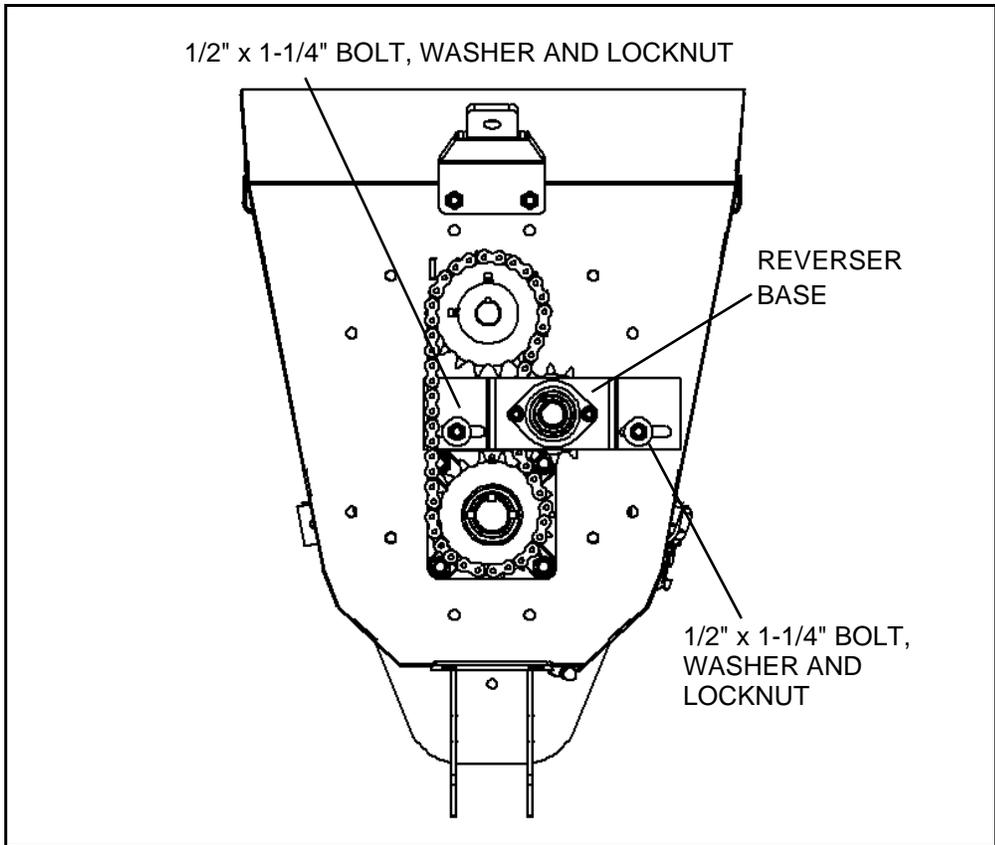

Figure 2 Fastening Reverser Base to the Boot
2. Install the reverser base with two 1/2" x 1-1/4" bolts, flat washers and locknuts (see Figure 2). Do not tighten until step 5.